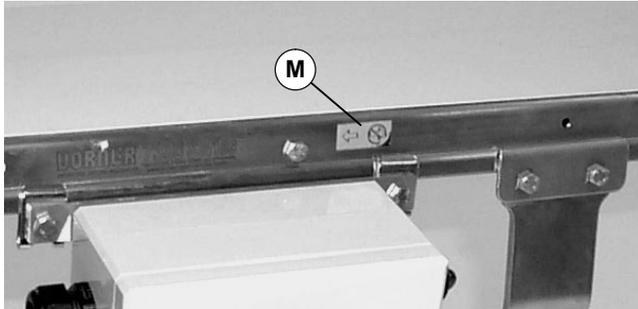

Figure 3
**NOTE:** 7300 Series sanitary conveyors are shipped with a “belt travel direction” sticker (M of Figure 3) installed. After drive is installed and tested, remove sticker.